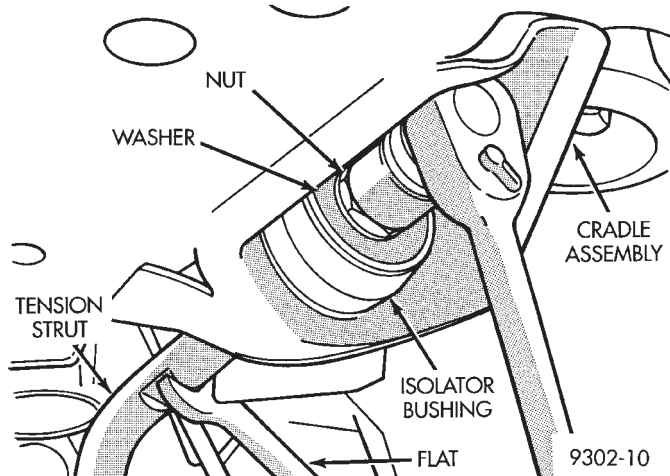

Fig. 21 Tension Strut To Cradle Mounting
(1) Install lower control arm and tension strut as an assembly back on the vehicle. See Lower Control Arm Installation in this section of the service manual for the required installation procedure.
(2) Install washer on end of tension strut (Fig. 21). Install a **NEW** tension strut to cradle bracket nut, on tension strut (Fig. 21). Torque the tension strut to cradle bracket retaining nut to 175 N•m (130 ft. lbs.).
When torquing tension strut nut, keep tension strut from turning by holding tension strut at flat using an open end wrench (Fig. 21).